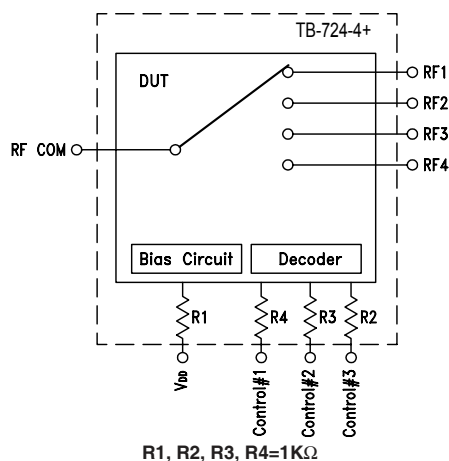

Figure 1: Block Diagram Of Test Circuit Used For Characterization.
- As measured in Mini-Circuit's test board TB-724-4+ (see Characterization Test Circuit, Fig.1).